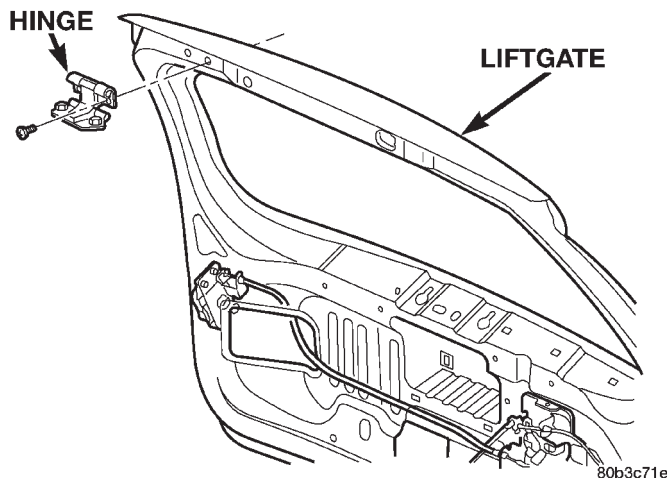

Fig. 71 Liftgate
- (1) Open the liftgate. Support the liftgate for ease of repair.
- (2) Remove the liftgate trim panel.
- (3) Remove the prop rods from the liftgate.
- (4) Unplug the wire harnesses and disconnect the washer hose.
- (5) Mark the hinge location with a wax pencil or other suitable device (Fig. 71).
- (6) Remove the hinge screws and remove liftgate from vehicle.
- (2) Remove the liftgate header trim panel.
- (3) Mark the hinge location with a grease pencil or other suitable device.
- (4) Remove the hinge screws (Fig. 71).
- (5) Remove hinge.